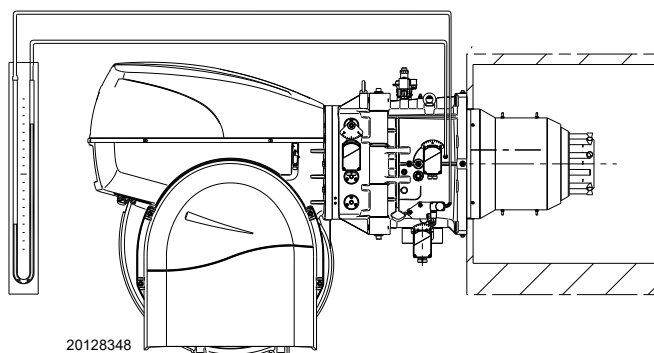

Fig. 28
- Fit a U-type pressure gauge or a differential pressure gauge (Fig. 28), with socket (+) on the gas pressure of the pipe coupling and (-) in the combustion chamber. The manometer readings are used to calculate MAX burner output.
The arrival of gas at the sleeve is indicated by the U-type manometer (Fig. 28).